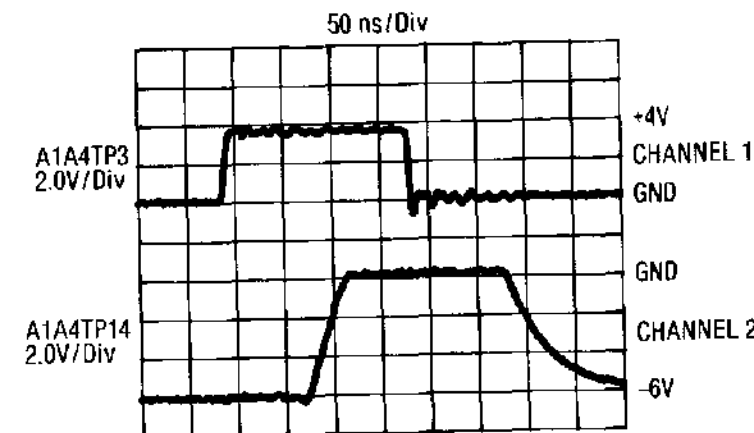

Figure 8-49. Pulse Driver Board Input Pulse and Sample Pulse
20. Connect channel 1 of the oscilloscope to A1A4TP3 and Channel 2 to A1A4TP14. Adjust the oscilloscope as shown in Figure 8-49 and compare the oscilloscope display to the figure.